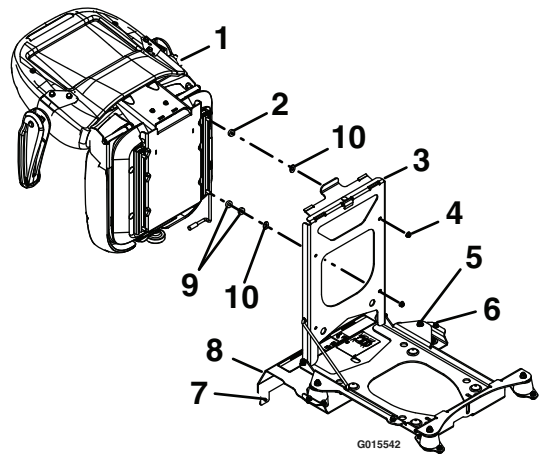

Figure 3
- Mount the 2 isolators to the front side of the fuel tank cover where shown in Figure 3 using 4 of the carriage bolts and nuts.